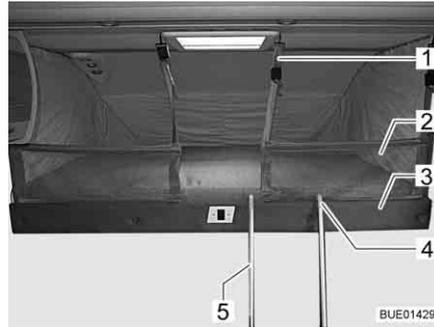

Fig. 128 Pull-down bed complete with applied safety net
**Safety net** If fitted, the safety net (Fig. 128,2) and the retaining belts are located beneath the mattress of the pull-down bed. Only use the safety net if persons are already in the pull-down bed.
*Setting up:* ■ Attach retaining belts (Fig. 128,1) to the hooks on the ceiling.
- Hook step ladder (Fig. 128,5) to the pull-down bed by attaching the two hooks (Fig. 128,4) in the holding bar (Fig. 128,3).